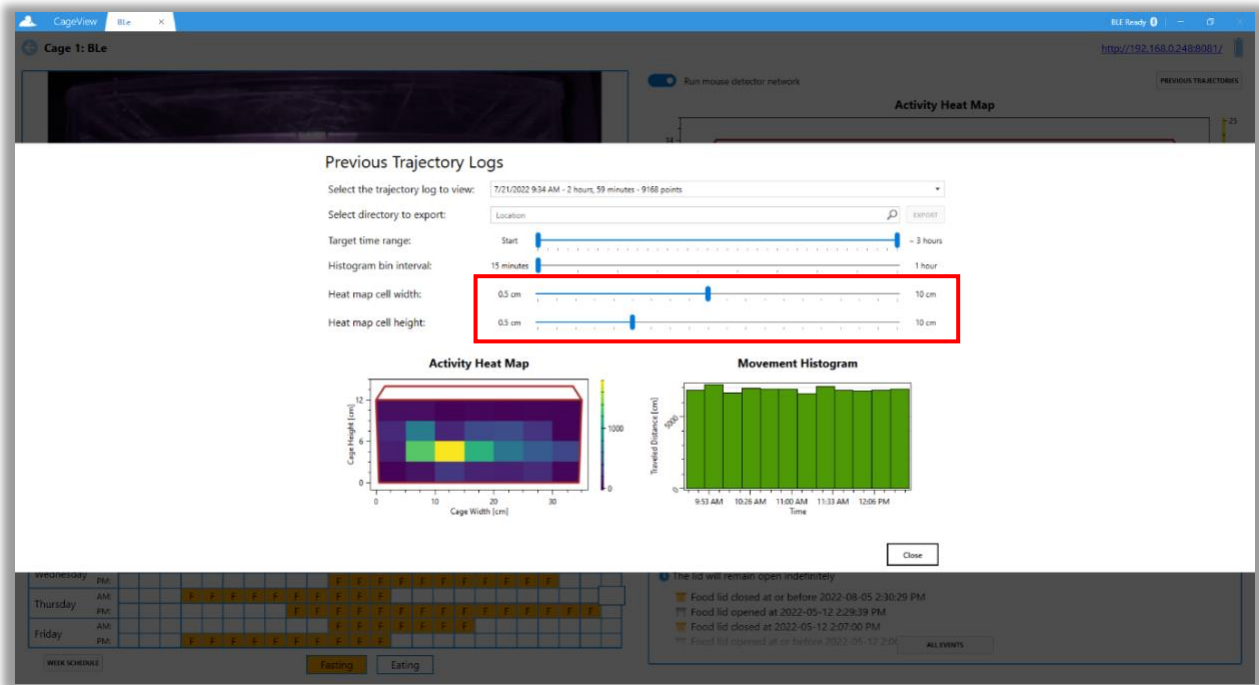

Figure 36. Customizing heat map size
7.4.1. Drag the sliders for the cell width and height to customize the heat map cell size to set the desired size range. The user should see a difference in cell size on the heat map. This feature allows the user to limit the range and focus on a specific cage for closer observation (**Figure 36**).